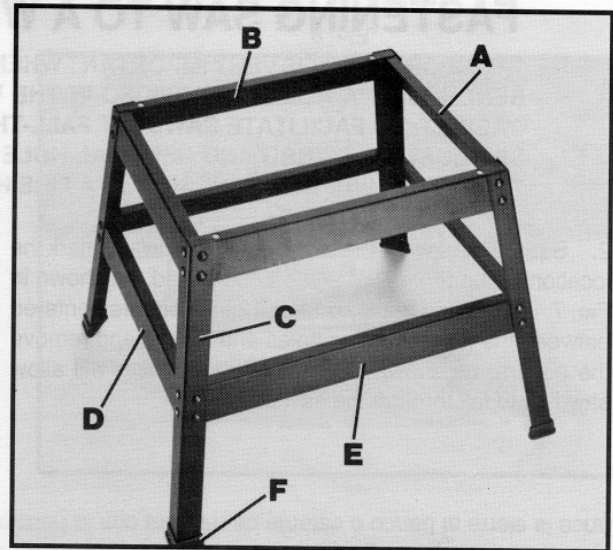

Fig. 4
2. Assemble the two top side braces (A) Fig. 4, which are 18-1/4" long and the two top front and rear braces (B), which are 22-1/2" long, to the four legs (C) using the sixteen carriage bolts, flat washers and hex nuts supplied. **NOTE:** The top lips of the two front and rear braces (B) must be positioned on top of the top lips of the two side braces (A). The front and rear braces (B) have holes on top for mounting the saw to the stand. Only tighten the hex nuts finger-tight at this time.
3. Assemble the two bottom side braces (D) Fig. 4, which are 21-1/2" long and the two bottom front and rear braces (E), which are 25-3/4" long, to the four legs (C) using the sixteen carriage bolts, flat washers and hex nuts supplied. Only tighten the hex nuts finger-tight at this time.
4. Assemble the four feet (F) Fig. 4, to the bottom of each leg (C) as shown.